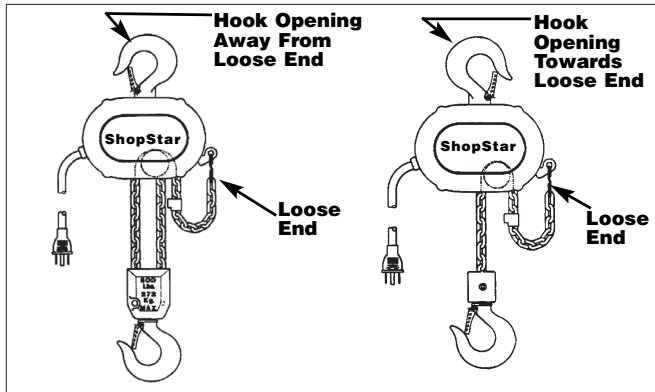

Figure 20 - Chaining Diagram
10. Properly install the upper hook as shown in Figure 20, then slide the hook retainer into the cavity on top of the hoist and secure it using hook retainer screw. Tighten screw to a seating torque of 10 in. lbs. (1.1 NM).